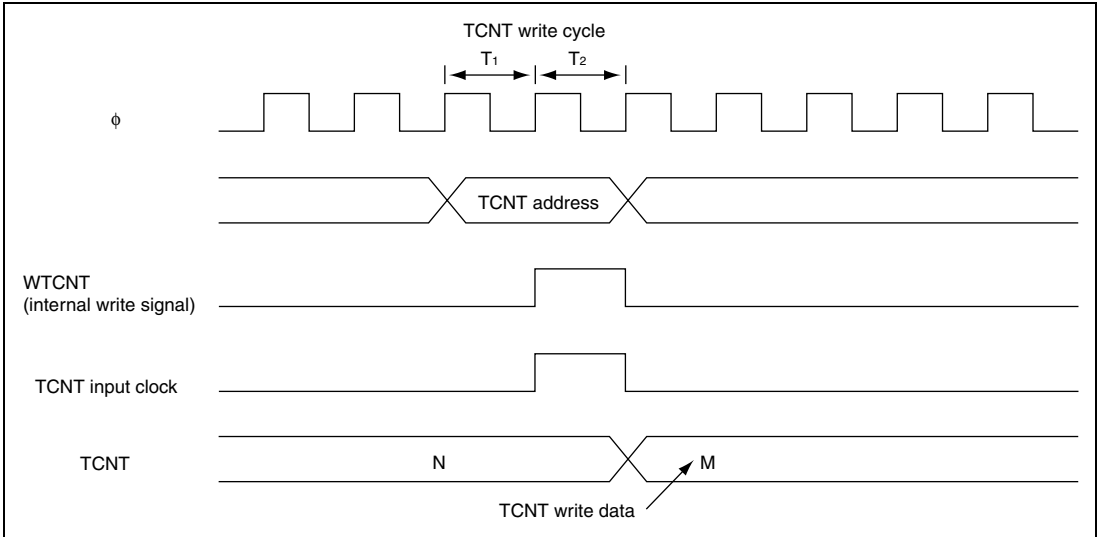

Figure 13.53 Contention between TCNT Write and Increment Operations
2. Contention between TCNT Write and Increment Operations: If a counter clear signal is generated in T_2 state of a TCNT write cycle, TCNT clearing has priority and TCNT write is not performed. Figure 13.53 shows the timing in this case.